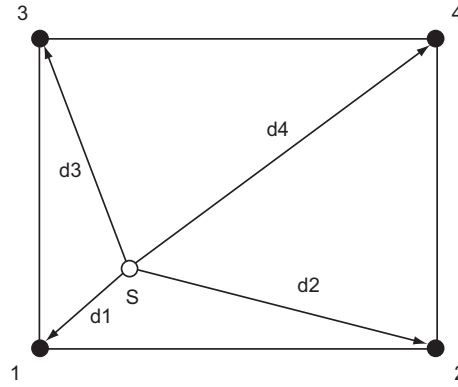

Figure 6.3 Interpolation for mismatched meshes.
A boundary element (BE) mesh and a structure mesh are said to be *mismatched* when not all nodes in the BE mesh have a corresponding node in the structure mesh that is coincident (by position). In such cases, nodal velocities at mismatched BE nodes are estimated by interpolating velocities from the nearby structure nodes (also referred to as *interpolating points*). Refer to Figure 6.3. For two matching meshes the velocities at structure nodes are directly applied to BE nodes.
Coustyx employs an inverse distance weighted interpolation method to estimate velocities at the mismatched nodes. The inverse of the distance between the BE node and the interpolating point is used as the weight. This approach diminishes the effect of far away interpolating points with respect to the nearby points. Employing this approach, the unknown velocity at a BE node is estimated by computing the weighted average of known velocities at ‘N’ nearby interpolating points collected from the structure mesh. Thus, the velocity at a mismatched BE node ($v(S)$) computed from the four interpolating points (shown in Figure 6.3) is given by